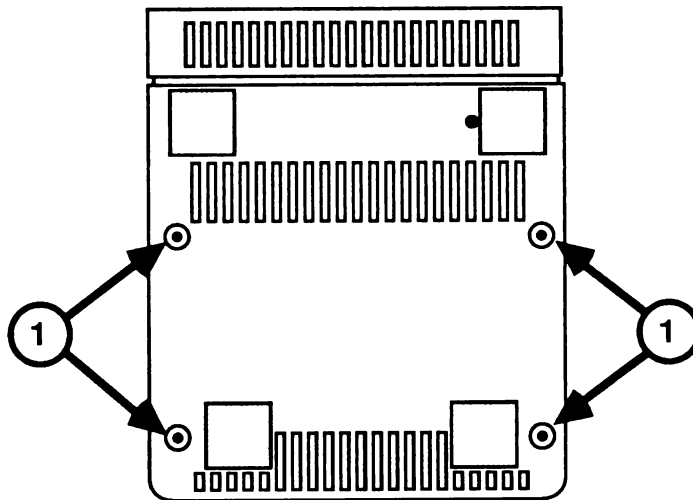

FIGURE 1
2. Turn the drive upside down and remove the four Phillips screws (Figure 1, #1).